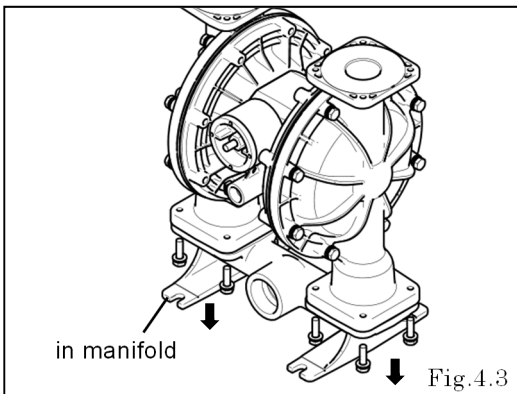

Fig.4.3
- Remove the 8 retainer bolts from the in manifold. <Fig.4.3>